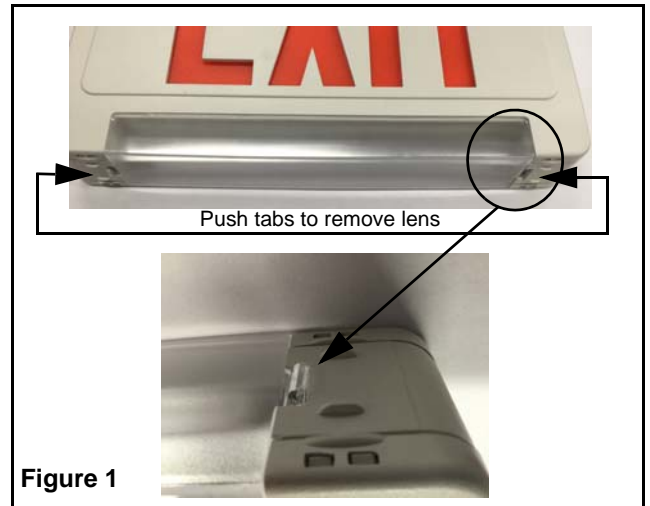

Figure 1
3. Remove the lens covering the light pipe LED strip by pushing the two tabs on the lens inwards and lifting the lens out, then set aside (fig. 1).